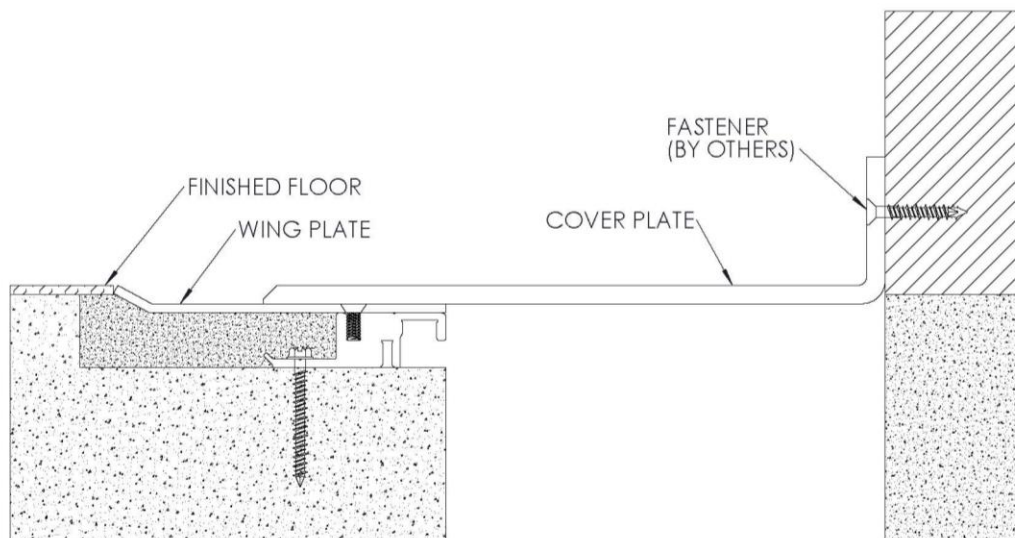

FIGURE 13
6. Position cover plate against wall as shown, making sure the top of its horizontal face is level when set on the wing plate. Attach plate to wall using appropriate 3/16" fasteners for the wall type, 18" o.c. *Note: Wall fasteners are not provided. See Figure 13*